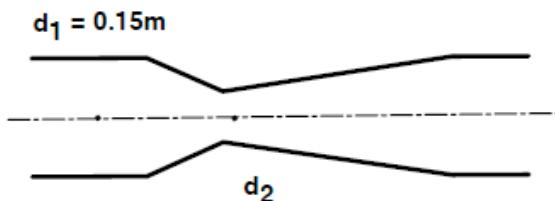

Figure 7: A venturimeter / Rajah 7: Sebuah meter venturi
- [b] A Venturimeter is fitted in a horizontal pipe of 0.15 m diameter to measure a flow of water which may be anything up to 240 m³/hour (Figure 7). The pressure head at the inlet for this flow is 18 m above atmospheric and the pressure head at the throat must not be lower than 7 m below atmospheric. Between the inlet and the throat there is an estimated frictional loss of 10% of the difference in pressure head between these points. Calculate the minimum allowable diameter for the throat.